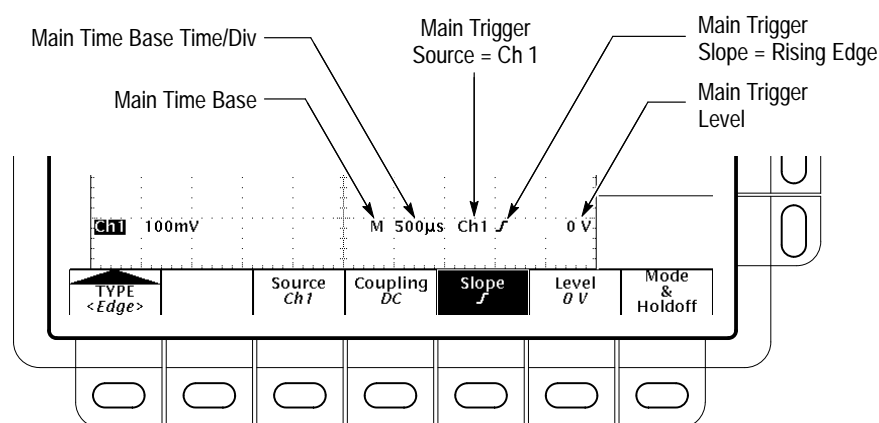

Figure 2–23: Example Trigger Readouts
**Trigger Readout.** To determine the settings of some of key trigger parameters, check the Trigger readout at the bottom of the display (see Figure 2–23). The readouts are different for edge and video triggers.
**Record View.** To determine where the trigger point is located in the waveform record and with respect to the display, check the record view at the top of the display (see Figure 2–24).
**Trigger Position and Level Indicators.** To see the trigger point and level on the waveform display, check the graphic indicators of trigger position and level, which you can optionally display. Figure 2–24 shows the trigger position indicator and the short-style trigger level bar.